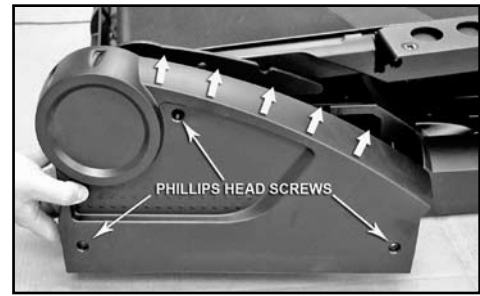

Figure 14-1
14-1 Using the #2 Phillips screwdriver, mount the left and right plastic drive covers to the sides of the base using (6) #10 Phillips head screws (3 per side—see Figure 14-1).